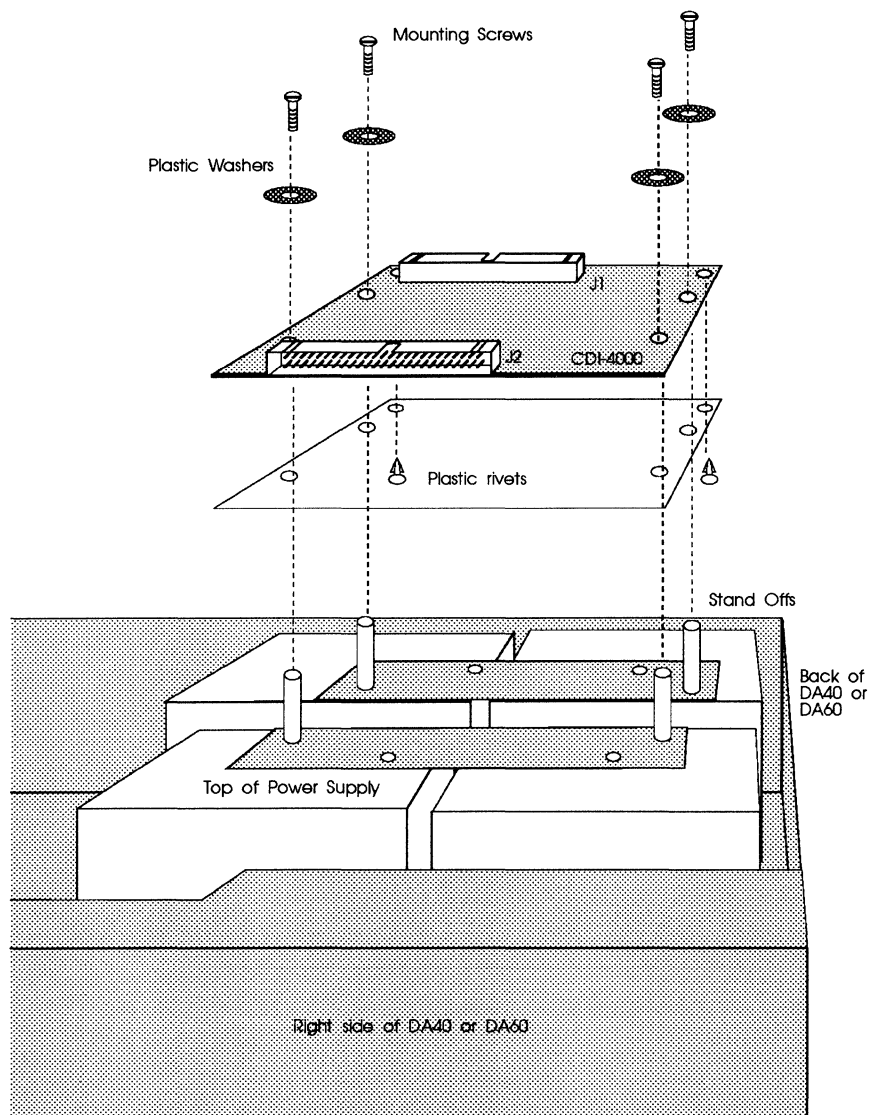

Figure 6-3: Mounting the CDI-4000 into DA40
- 10 Put two plastic rivets into the CDI-4000 through the mylar. See Figure 6-3.
- 11 Place the CDI-4000 on the mounting brackets and put four screws through the holes in the CDI-4000 and into the standoffs on the mounting brackets. See Figure 6-3.